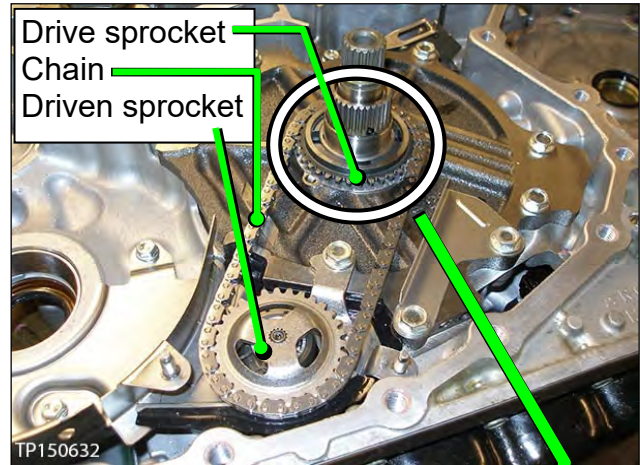

Figure 164
135. Install the drive sprocket, driven sprocket, and chain as an assembly (Figure 164).
- Make sure the raised edge (wider edge) on the drive sprocket is facing up (Figure 164).